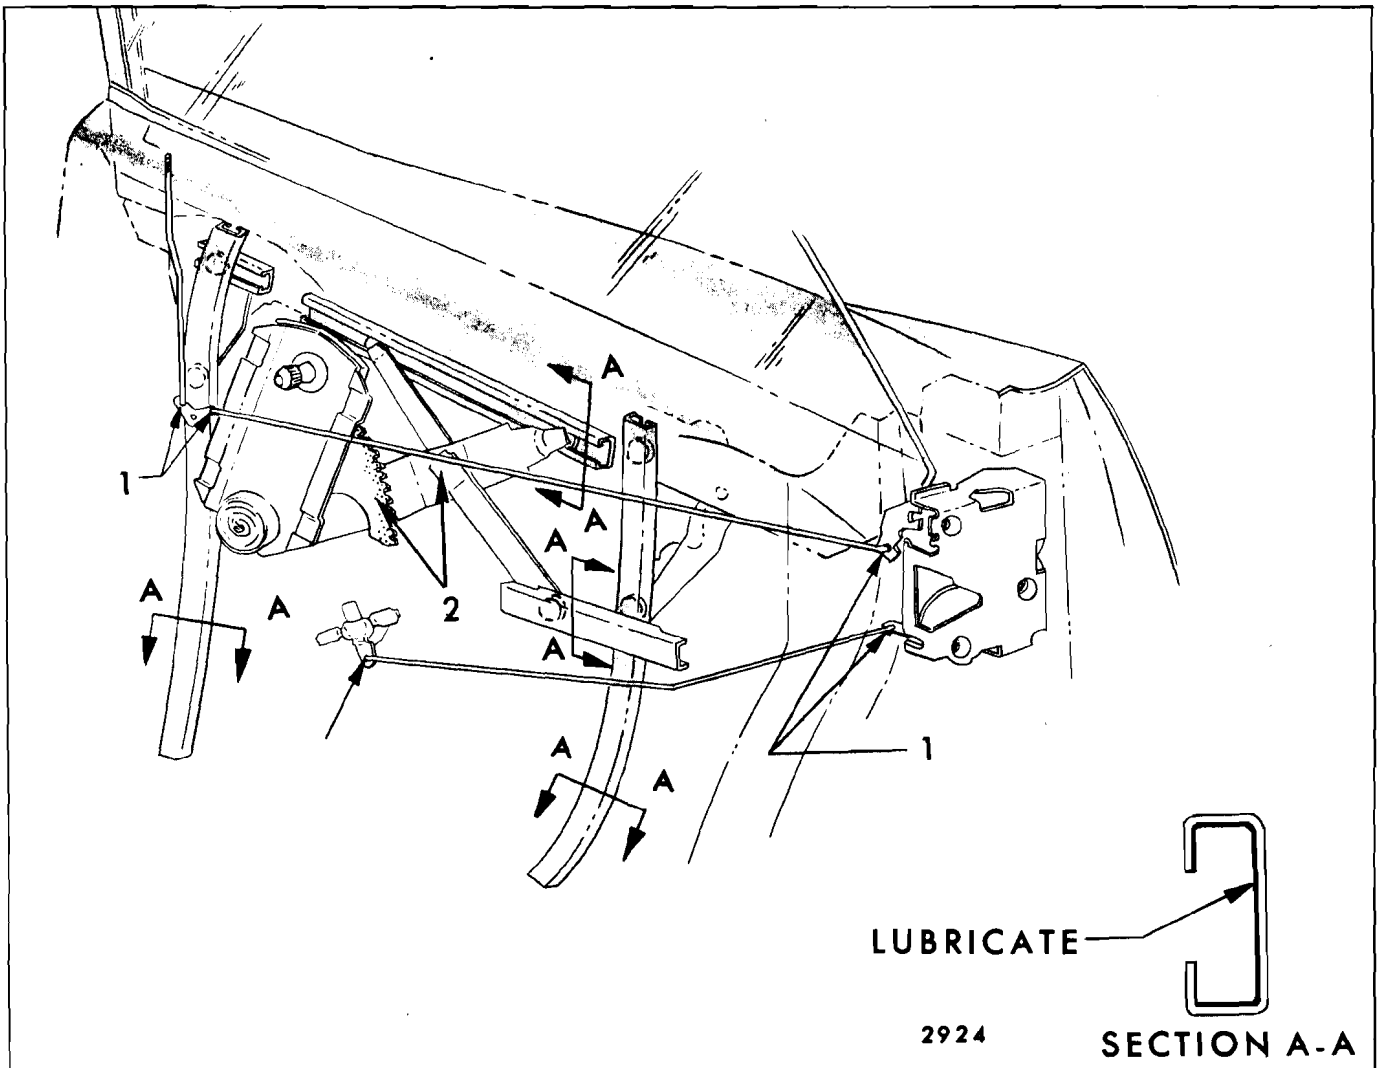

Fig. 2-8—Door Window Regulator and Cam Lubrication - Hardtop
grease (Fiske Bros. Lo-Temp. Lubriplate #777 or equivalent), cover the entire length of the front guide, rear guide, the lower sash channel cam, and the inner panel cam as shown in the cross section "A-A", Figure 2-8.
2. Lubricate all connecting rod pivots points with Auto-Lube "A", Part No. 1050110 or Spray-Lube "A", Part No. 1050520 or equivalent at the points indicated 1 in Figure 2-8.
3. Apply a thin coat of Auto-Lube "A", Part No. 1050110 or Spray-Lube "A", Part No. 1050520 or equivalent to the teeth of the sector gear and the pivot point of the balance arm and lift arm as indicated at points 2 in Figure 2-8.